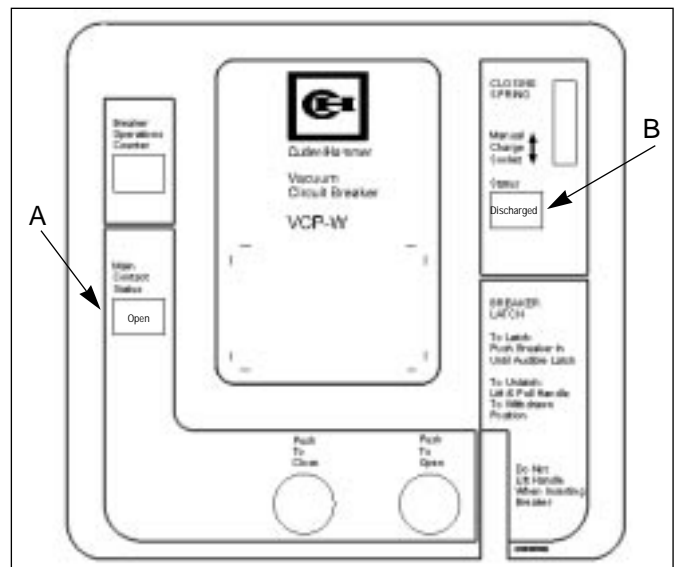

Figure 6-5 Status Indicators (“A” shows the contact status indication and “B” shows the spring indication.)
*Step 1* - On the front cover identify the status indicators. MAKE SURE THE CLOSING SPRING STATUS INDICATES “**Discharged**” AND THE MAIN CONTACT INDICATOR SHOWS “**Open**” (Figure 6-5).